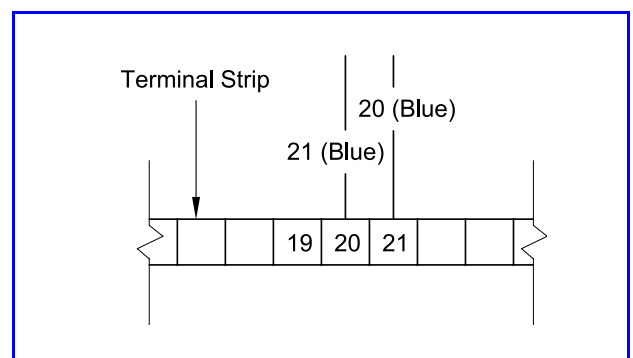

Figure 26 *Wiring Connection for Automatic Current Control Mode of Operation*
4. Connect wire No. 20 to terminal No. 21 and wire No. 21 to terminal No. 20. See **Figure 26**.